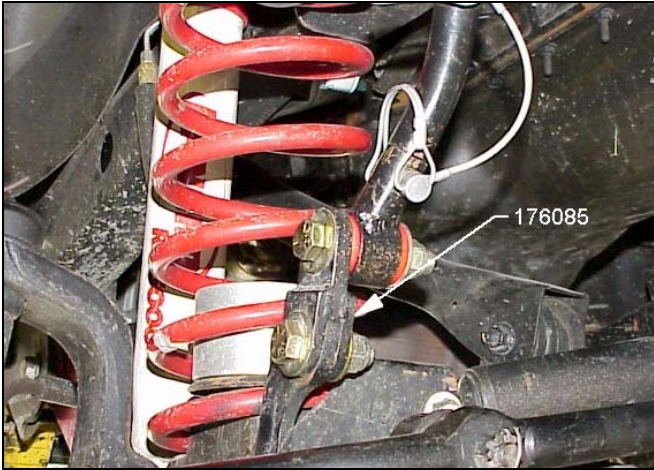

Figure 12
- 7) ☐ Grind the passenger side axle bracket even with end link bracket 176085. See figure 12.